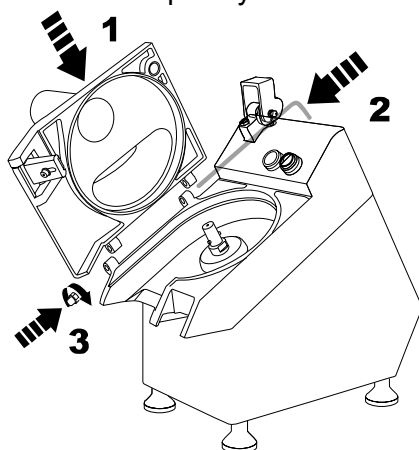

Fig.3
4.6.4Clean the device, in particular the disc assembly. Only with a dampened cloth or sponge in warm water. Thoroughly remove all remaining foodstuff. Open the cover and loosen pin 1 as shown in fig.3. Remove the cover and wash with warm running water. Clean the surfaces with water with soap, alcohol, non-abrasive detergents or with water without chlorine- or soda-based substances (chlorinated water, hydrochloric acid). Never use